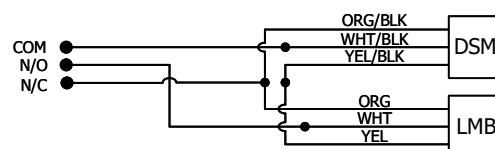

FIG. 2 FIELD REVERSIBLE FAILSAFE / FAILSECURE
2. Factory supplied in Failsecure mode. For Failsafe mode refer to **Fig. 2, page 3**